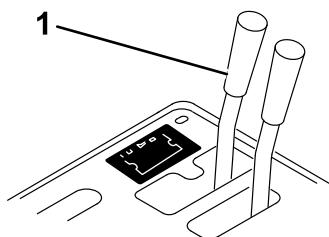
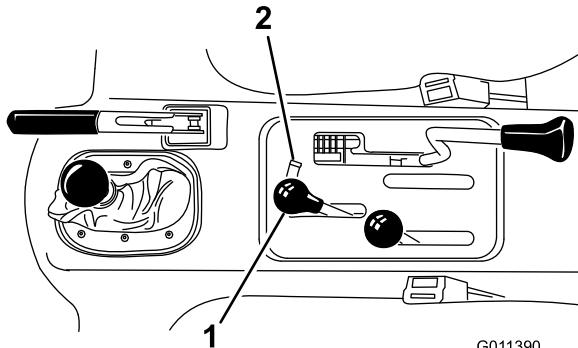

Figure 14
Figure 15
1. On vehicles with serial numbers prior to 239999999, move the remote hydraulic valve handle (Figure 14) to the float position and on vehicles with serial numbers 240000001 and up, move the hydraulic lift lever (Figure 15) back and forth to remove the system pressure and ease the disconnection of the quick couplers.